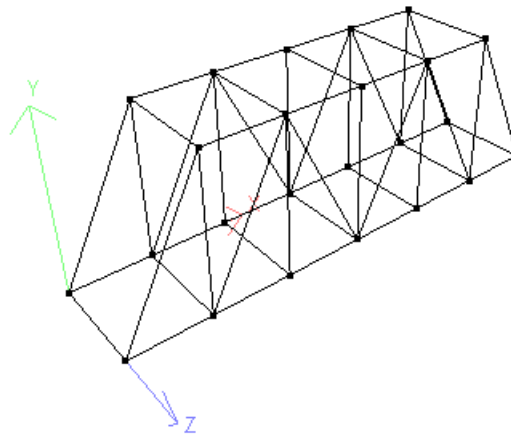

Figure 2-56 The Howe bridge model
Step 5: Choose the **Apply** button; the model is created and displayed in the window, as shown in Figure 2-56.